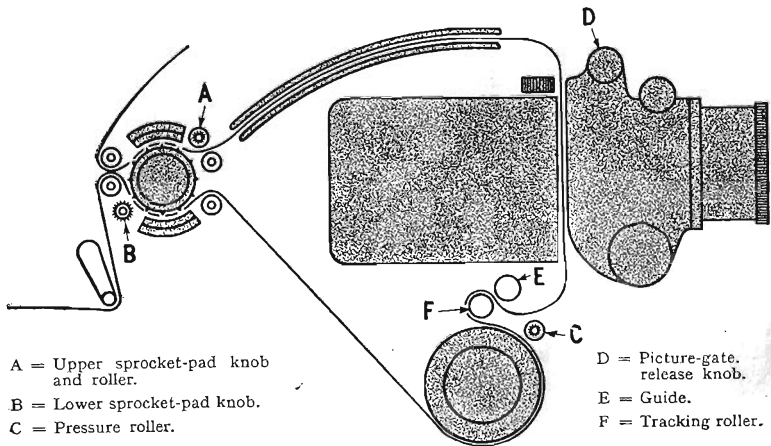
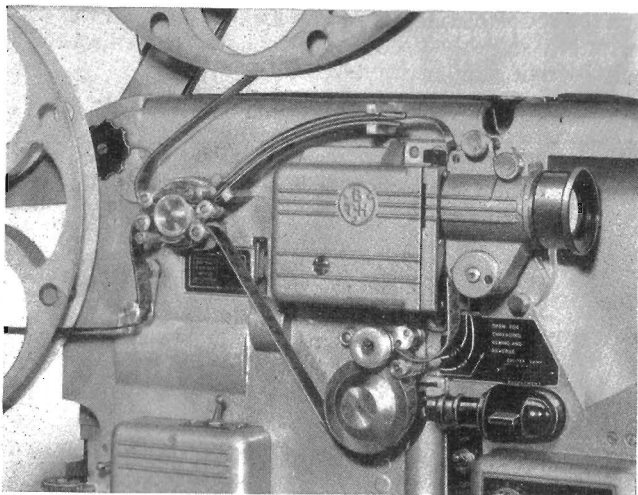

Fig. 6. Diagram of film-path.
Fig. 7. 'Close-up' of film-path.
- (2) Pass the film between the guide rails and into the picture gate, making sure that the top loop is of the correct size when the lens-holder is closed.
- (3) Referring to the threading diagram, Fig. 6, pass the film between the guide E and the tracking roller F; pass the film round the sound drum and close the pressure roller by knob C.
- (4) Set the film loop below the gate to suit optical soundtrack, as indicated on the engraved plate on the projector. Check that the film is properly seated round the tracking roller F, Fig. 6, making sure that both side-pressure buttons are bearing correctly on the edges of the film.
- (7) Inch the projector by means of the inching knob 6, Fig. 4, or switch the motor on for a moment, to check that the film is correctly threaded. The complete film path is shown in the threading diagram Fig. 6, and in Fig. 7.